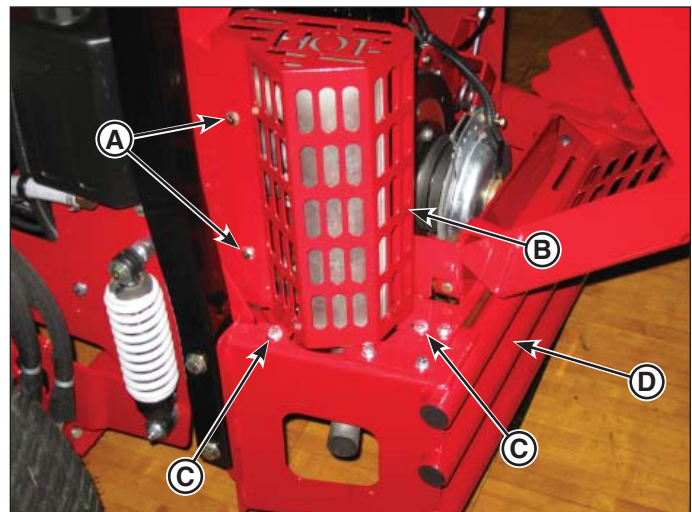

Figure 7. Removing the Muffler Guard
2. Using two (2) 5/16-18 X 3/4 bolts, 5/16 gr. 9 washers and new 5/16-18 nylon flange nuts (**C, Figure 7**) secure the muffler bracket to the bumper (**D**).
3. Using two (2) 1/4-20 X 3/4 bolts and 1/4 SAE washers (**A**) secure the muffler guard (**B**) to the cowling.
4. Tilt the hood into the closed position and secure with the two (2) rubber straps.